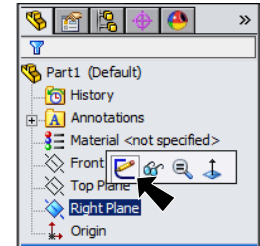

Fig. 1
- Step 2. Click **Right Plane**  in the Feature Manager and click **Sketch**  from the Context toolbar, **Fig. 1**.
- Step 3. Click **Circle**  (S) on the Sketch toolbar.